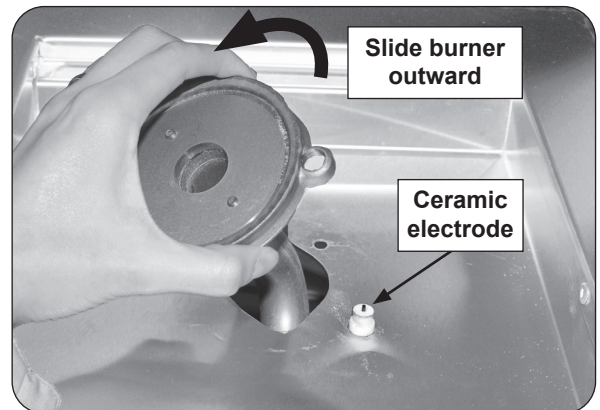

Fig. 39-2 Remove burner
5. Carefully lift the burner up and out, clearing the ceramic electrode (see Fig. 39-2), and pulling the burner tube away from the orifice located on the left side of the unit.